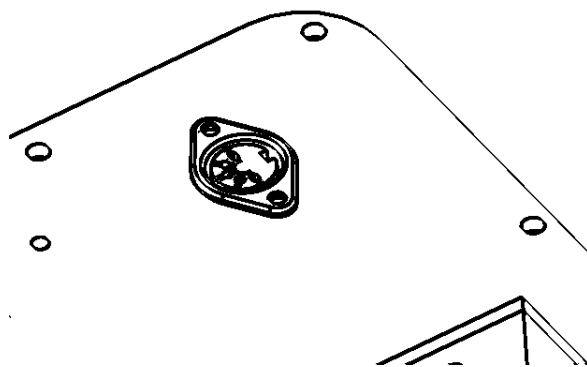

Figure 11. 5-pin DIN Connector.
7. Plug the 5-pin DIN connector (male receptacle) from the AC-DC Adapter or custom cable assembly into the 5-pin DIN connector (female socket) on the bottom panel subassembly shown in Fig. 11. The 5-pin connector is keyed so it only fits one way.